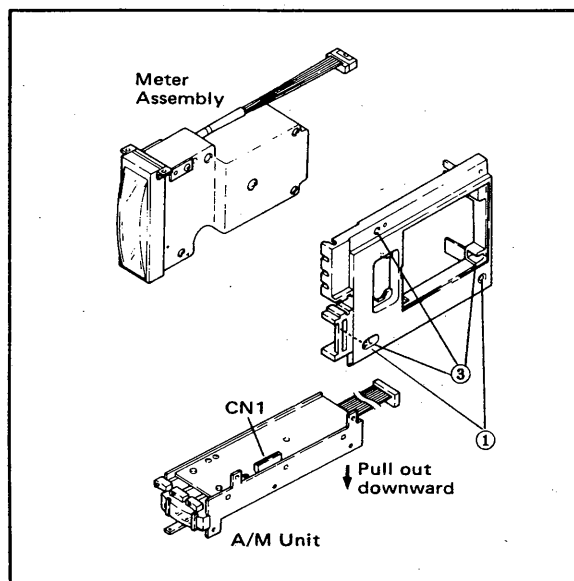
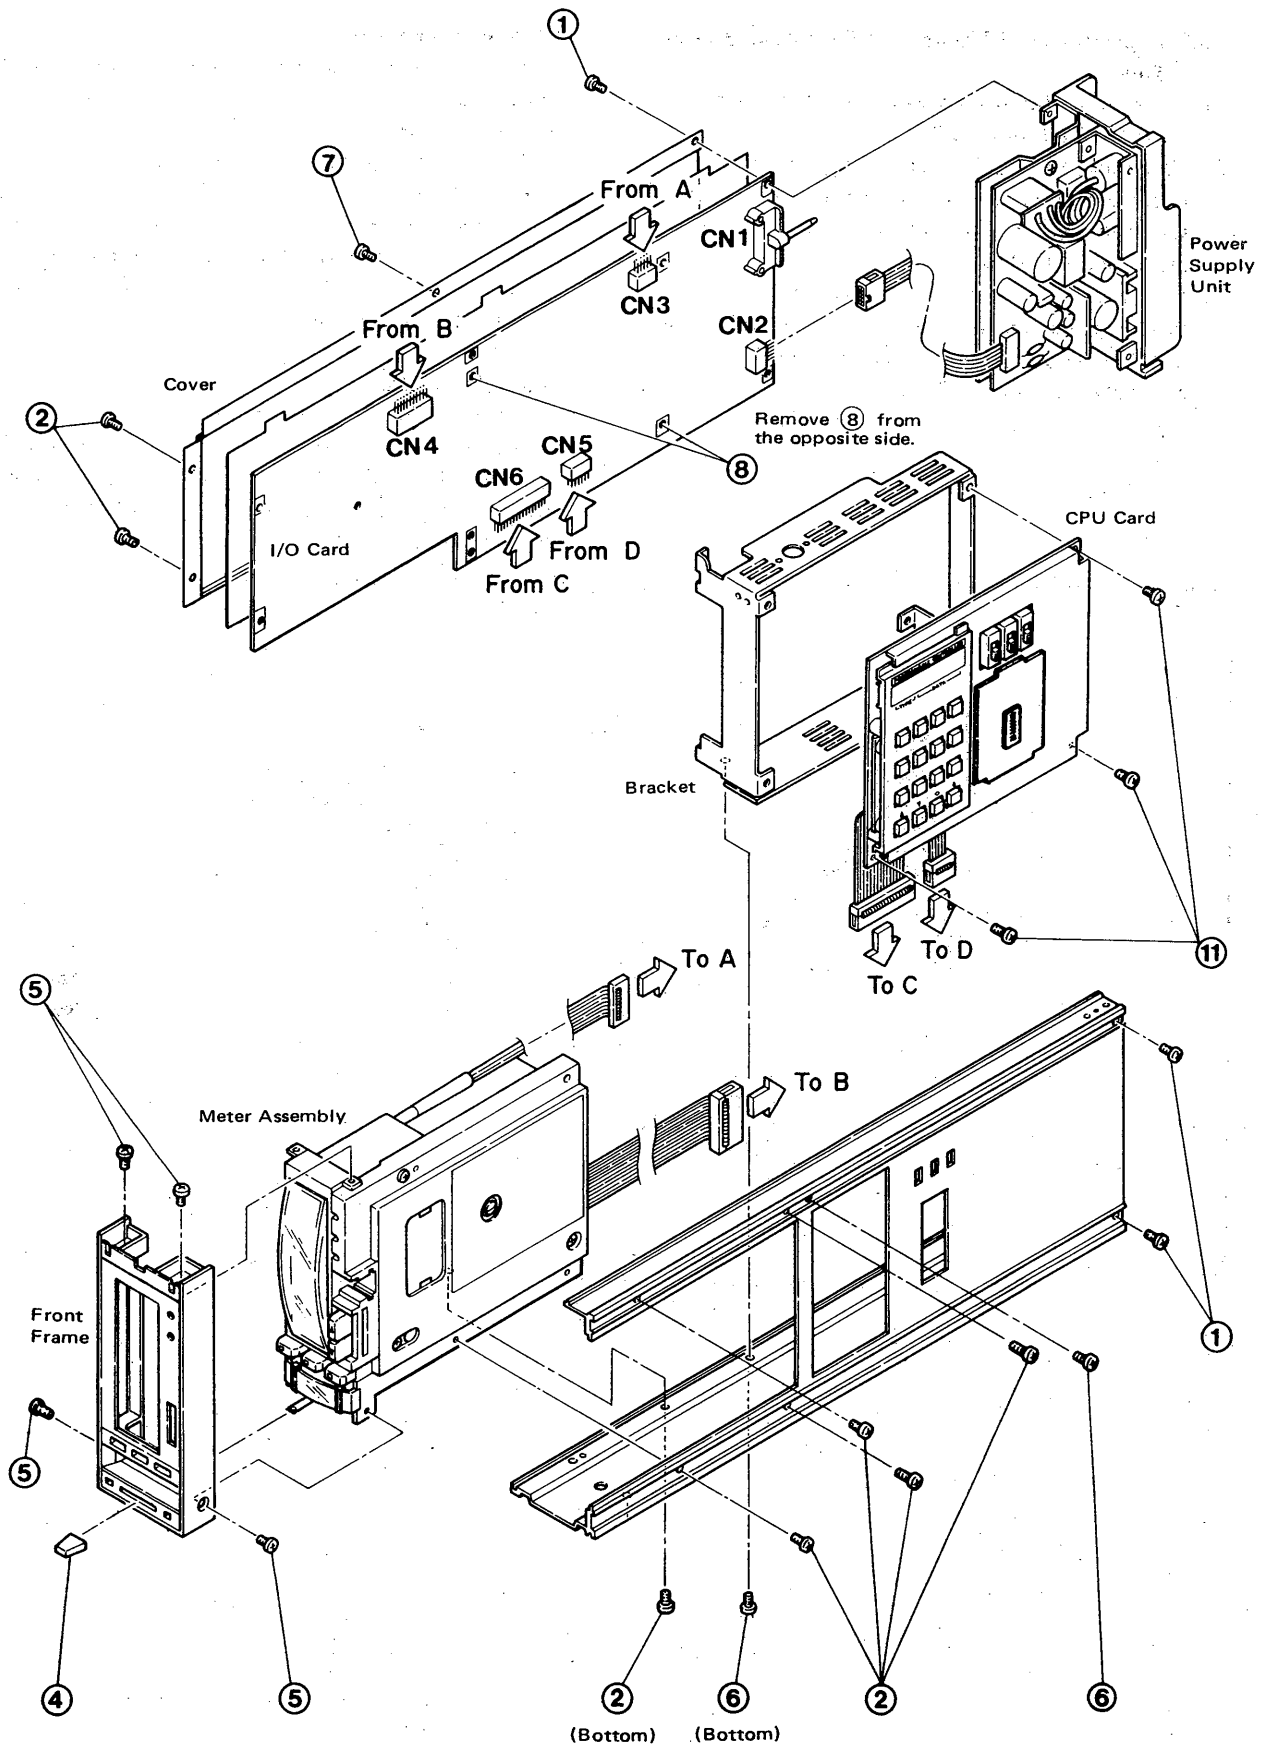

Figure 7-2. Disassembling the Display Unit.
Figure 7-3. Disassembling Main Assembly.
- (1) Remove seven screw ② in Figure 7-3.
- (2) Pull the connectors CN3 and CN4 up to disconnect them from the main card.
- (3) Carefully pull the meter assembly out toward the front.
- (1) Pull out the manual operation lever knob ④ in Figure 7-3.
- (2) Remove four screws ⑤ to separate the front frame.
- (3) Pull the A/M unit out downward by removing two screws ① in Figure 7-2.
- (4) To separate the meter assembly, remove three screws ③ from the molded part. (The meter assembly in the fluorescent bar graph version can be separated in the same manner.)
- (1) Remove four screws ① in Figure 7-3.
- (2) To remove the power supply unit, pull it out toward the rear and detouch connector CN2.
- (1) Remove the meter assembly and the power supply unit as instructed in Sections 7-2-1 and 7-2-3.
- (2) Separate the control assembly from the chassis by removing two screws ⑥ in Figure 7-3.
- (3) Remove two screws ⑦ and open the cover to access screw ⑧.
- (4) Remove two screws ⑧ and pull connectors CN5 and CN6 down to separate the I/O card from the CPU card.
- (5) Remove three screws ⑪. Remove the CPU card from the bracket.